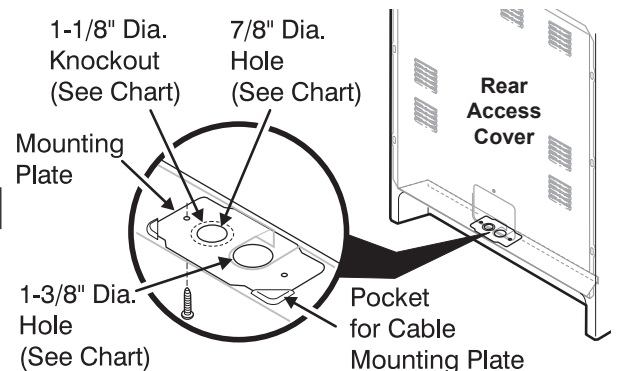

Fig. 9
The Rear Access Cover must be removed (Fig 9). To remove, loosen center screw (one screw) and remove cover. The terminal block will then be accessible.
NOTE: Range is shipped from factory with 1-3/8" dia. hole as shown. To use either 7/8" dia. hole or 1-1/8" dia. knockouts refer to Fig. 9.
1. Follow the manufacturer's installation instructions supplied with the strain relief and install (Also see Figs. 9, 10 & 11).
5. Make sure all screws are tightened securely and replace the rear access cover (See Fig. 9).
3. Make sure all connections are tightened securely and replace the rear access cover (See Fig. 9).
5. (3 & 4 - Wire Permanent Connections) Make sure all connections are tightened securely and replace the rear access cover (See Fig. 9).